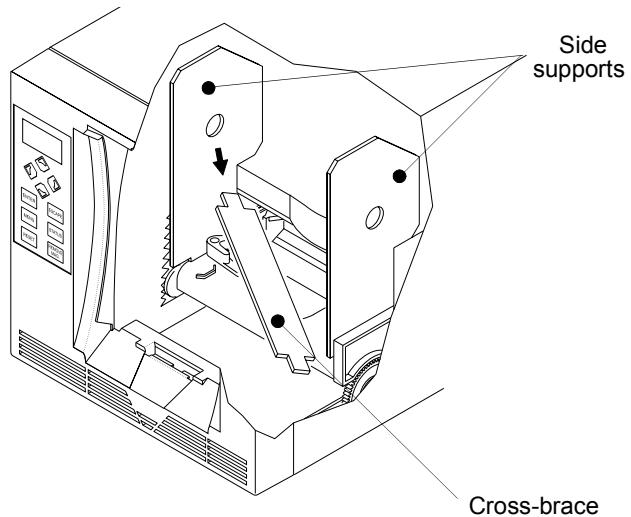

Figure 2-2 Removing the shipping braces
- a. Grasp the cross-brace and disengage it from one side support. Then remove it from the autoloader, as shown in Figure 2-2.